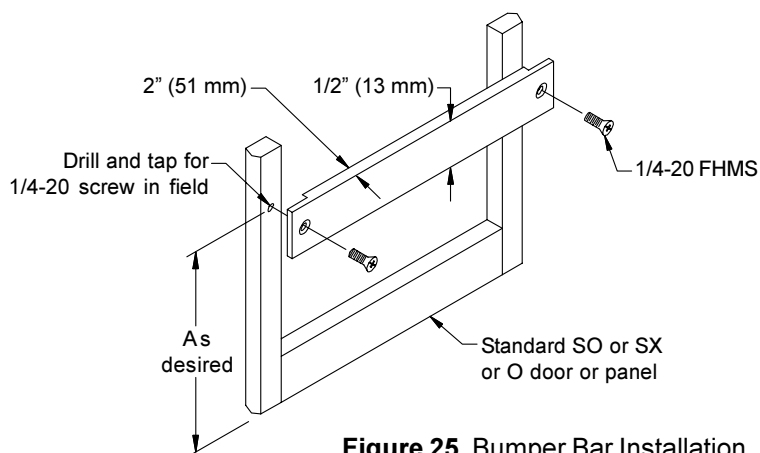

Figure 25. Bumper Bar Installation
2. Refer to **Figure 25** for optional Dor-O-Matic bumper bar installation.